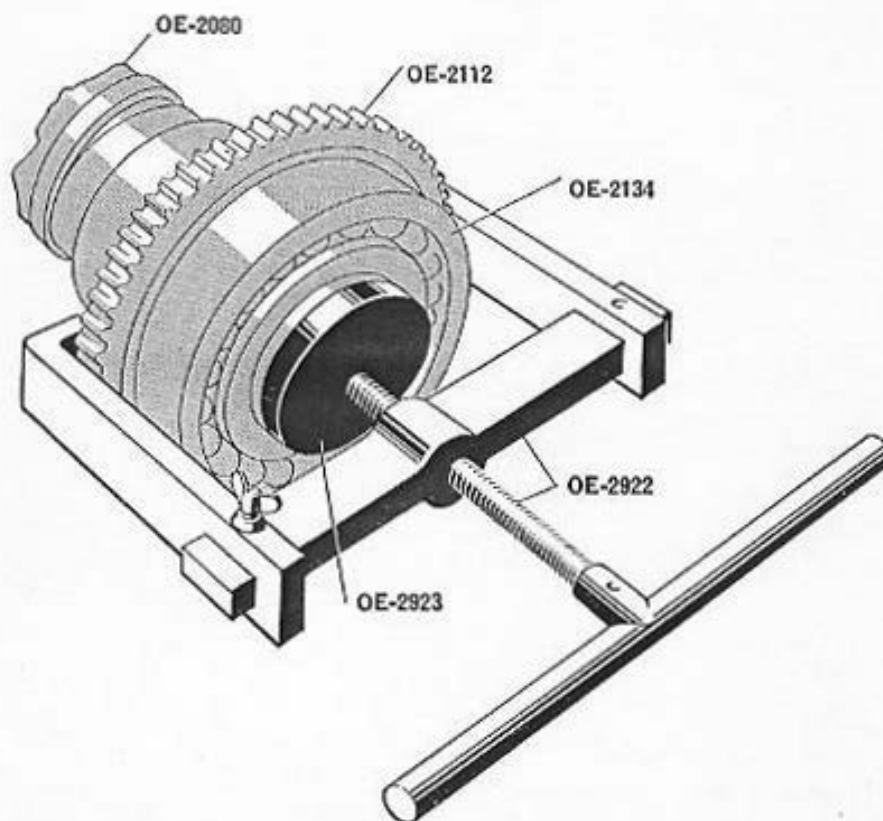

Figure 8—Using puller (OE-2922) and disc (OE-2923) to strip ball bearing and spur wheel from column raising spindle
21. Remove the lower spring housing bushing lock screw (OE-2251), lower spring housing bushing (OE-2129) using spanner wrench (OE-2907) and retaining ring (OE-2126) using spanner wrench (OE-2911). Remove the bearing (OE-2134) and the spur gear (OE-2112) from the spindle (OE-2080), as follows: Place hooks of puller tool (OE-2922) back of the gear teeth. Place the tool disc (OE-2923) over the end of the column raising spindle (OE-2080) Figure 8. Turn the center screw of puller tool (OE-2922) inward so that it presses against the disc (OE-2923) as shown in Figure 8. Turning the tool handle will press the ball bearing (OE-2134) and spur wheel (OE-2112) off the column raising spindle (OE-2080). Remove column raising spindle keys (OE-2239).